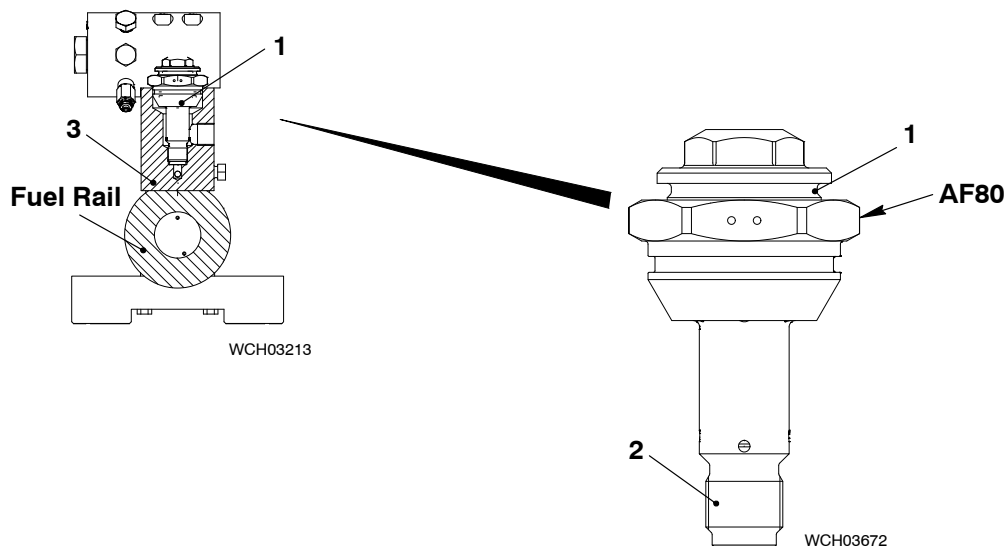

Fig. 3
- 1) Apply Never-Seez NSBT to the thread of valve housing (2, Fig. 3).
- 2) Install the relief valve (1) in the connecting piece (3).
- 3) Torque the relief valve (1) to 300 Nm.